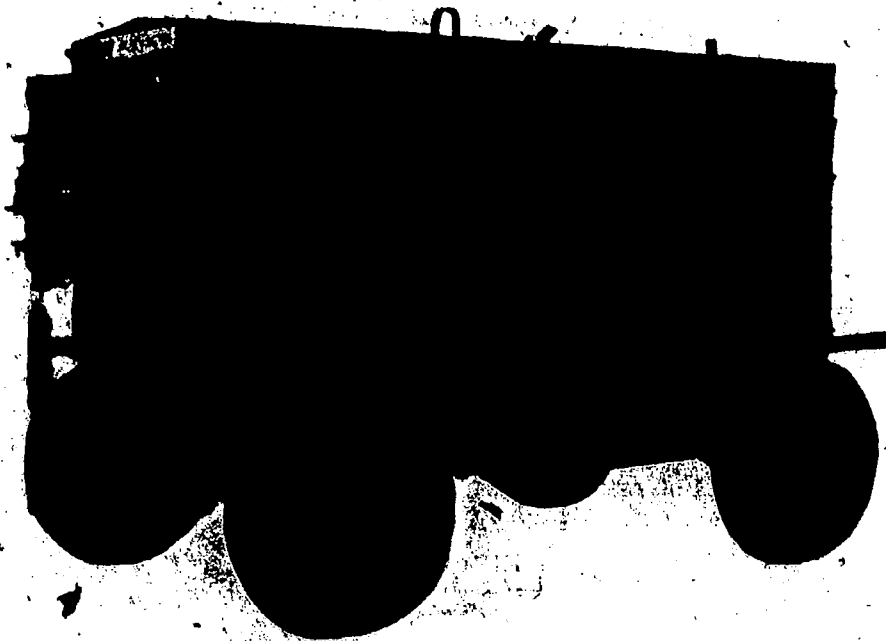

Fig 1-18. Worthington 600-cfm rotary air compressor.
b. Worthington 600-cfm rotary air compressor (fig 1-18). This is one of the latest models of air compressors used by the Marine Corps. It is wheel-mounted, and powered by a Detroit Diesel series 71 engine. It is capable of providing 600 cfm at a discharge pressure of 100 psi for continuous service, or a maximum discharge pressure of 125 psi for intermittent service. The compressor is a single cylinder, sliding-vane, oil-cooled, positive-displacement rotary compressor and is connected to the engine through a friction-disk clutch. An electrically operated shut-down system will stop the engine in case of malfunctions of the engine or compressor. It is equipped with a minimum pressure device to prevent the discharge pressure from dropping below 70 psi. A thermostatic bypass valve assures rapid warmup and optimum performance over a wide range of ambient temperatures.